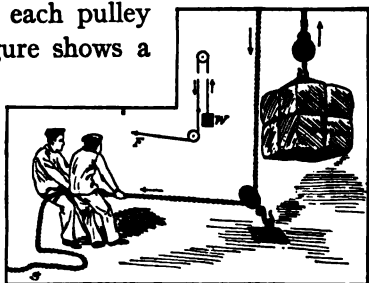

FIG. 225. The fixed pulley changes the direction in which the force is applied.
**The pulley.** There are two kinds of pulleys, the fixed and the movable. The fixed pulley gives us no advantage in power or in speed; it only changes the direction in which the force is applied (Fig. 225). This kind of pulley makes it possible by pulling downward